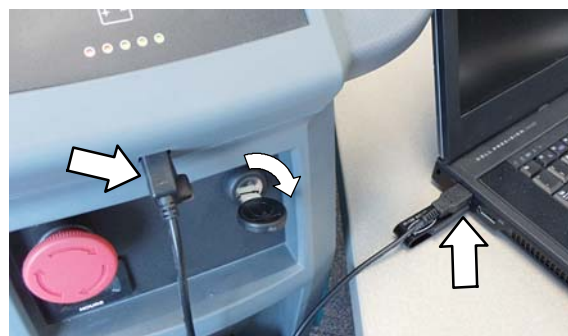

Fig. 16
3. Connect the USB cable to computer and to the USB port on machine as shown. Turn the key switch to the on position (Figure 16).